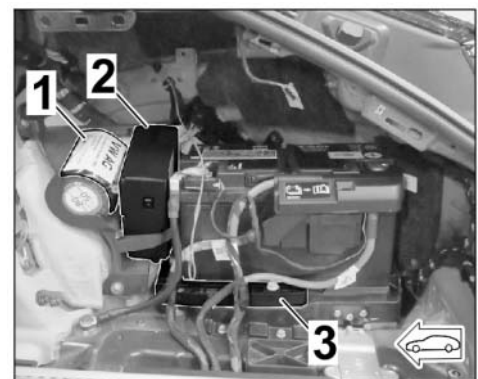

Figure 6 (Hybrid)
- 1.6.5 **ONLY** for vehicles with electric compressor (1G8): ⇒ *Figure 6 (Hybrid)*
- 1.6.6 Remove retaining bar for vehicle electrical system battery (⇒ *Figure 6 (Hybrid)-3-*) and unclip lines